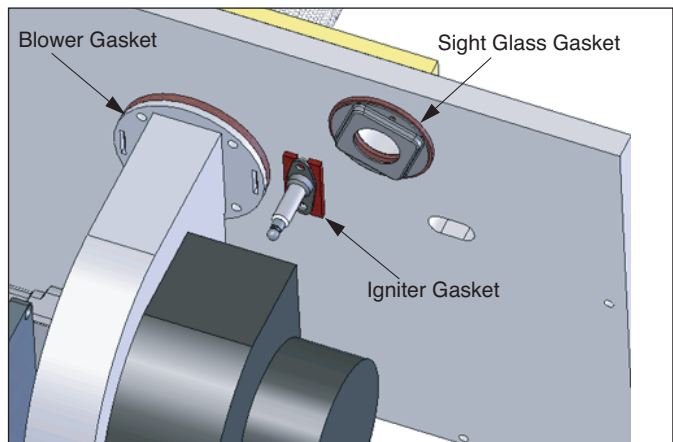

Fig. 3 : Blower, Sight Glass and ignitor Gaskets
3. Install the new red blower gasket between the blower and the burner mounting plate aligning the punch holes to the mounting holes. See Fig. 3, page 3.
4. Secure the blower to the burner mounting plate using (4) M5 x 10 screws supplied in the kit.
3. Place the new red sight glass gasket against the burner mounting plate aligning the punch holes with the mounting holes. See Fig. 3, page 3.
13. Re-install the ignitor onto the burner mounting plate. Insert the new red ignitor gasket between the ignitor and the burner mounting plate. See Fig. 3, page 3.